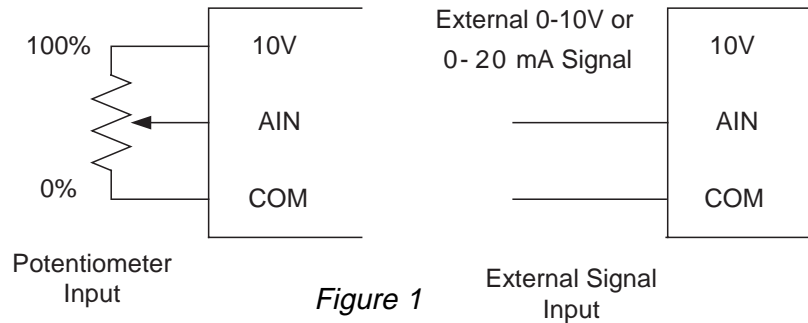

Figure 1
g) Set Frequency Reference Source: Set Frequency Reference Source: Change parameter 1-06 to change the frequency reference source as shown below. After setting parameter 1-06, remove AC input power, wait for the "Charged" LED to extinguish, and connect any devices to the drive as shown in Fig. 1. Reference to page 53 of the instruction manual.